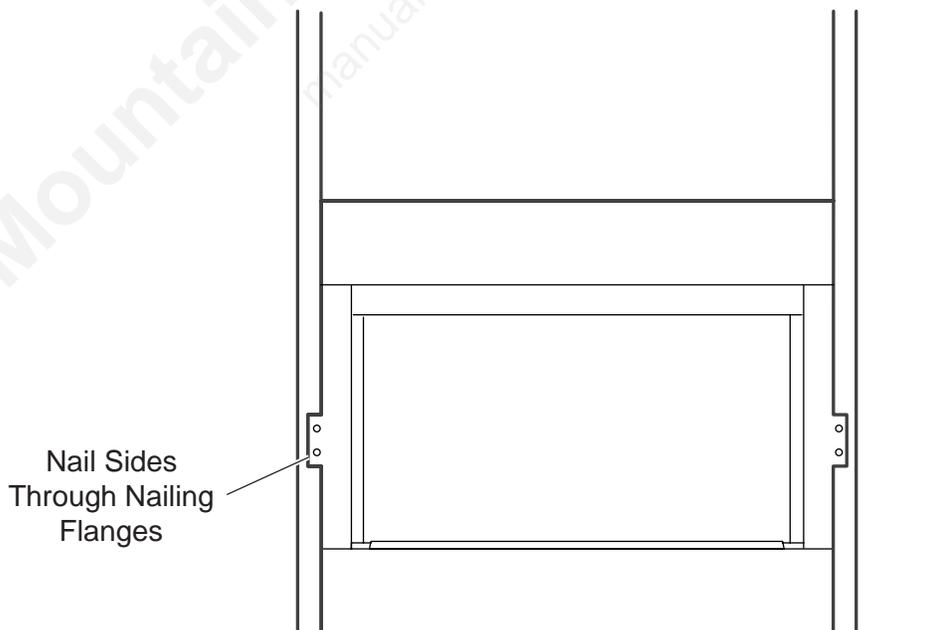

Figure 27 - Location of Nailing Flanges
4. Anchor firebox to the side framing members using 8d nails or other suitable fasteners. *Refer to Figure 27.*